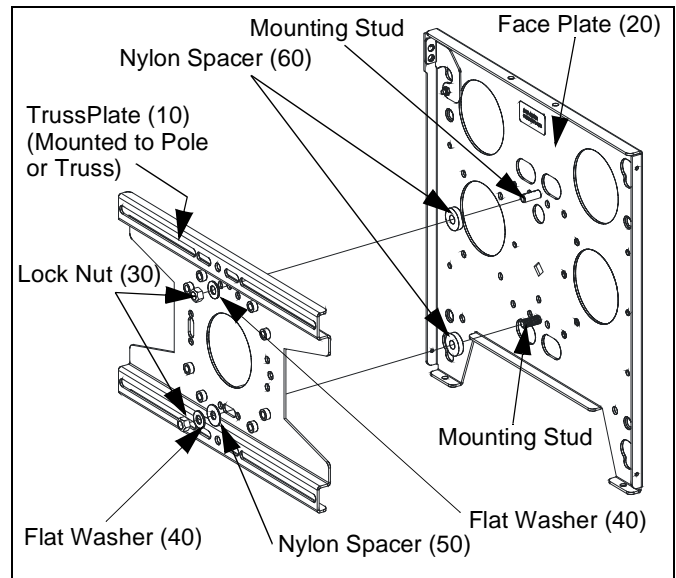

Figure 7: Install Face Plate to Truss Plate
1. Verify face plate (20) is properly oriented for installation. (See Figure 7)
2. Install two .64" x .327" Nylon Spacers (60) onto mounting studs on face plate (20) back.
3. Align mounting studs on face plate (20) with center upper mounting hole and lower center slot in truss plate (10). (See Figure 7)
6. Secure face plate (20) bottom to truss plate (10) using one UHMW Washer (50), one 3/8" flat washer (40), and one 3/8" Nylock Nut (30). (See Figure 7)